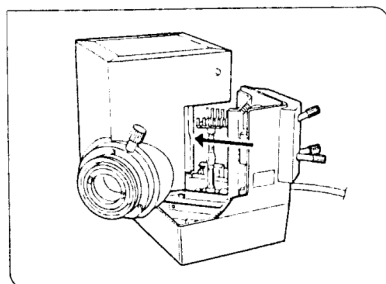

Fig. 8
2. Reattach the socket to the lamp housing by reversing the procedure given in 4-1) above. (Fig. 8)